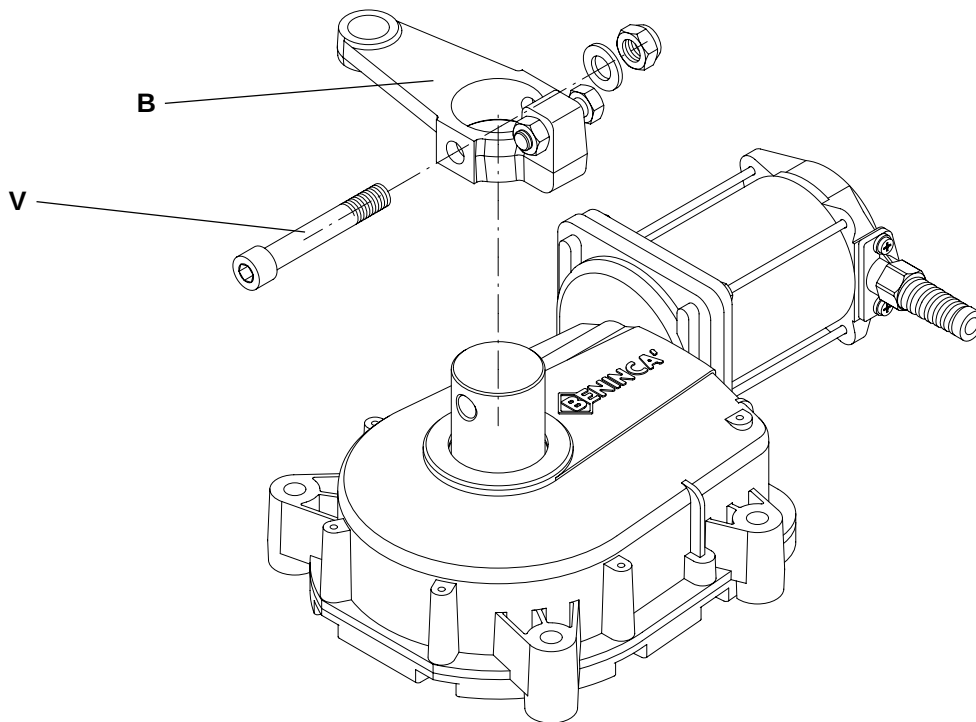

Fig.2
- 1 Montare la biella "B" come da fig. 2 serrando forte la vite V (coppia di serraggio max. 45 Nm).
- 1 Assemble the cam "B" as per Fig. 2 and firmly tighten the screw V (tightening torque 45 Nm max).
- 1 Pleuel "B", wie in Abb. 2 einbauen. Dabei Schrauben V fest anziehen (Max Anziehmoment 45 Nm).
- 1 Monter la bielle "B" de la manière illustrée à la figure 2 en serrant fort la vis "V" (couple de serrage maximum 45 Nm).